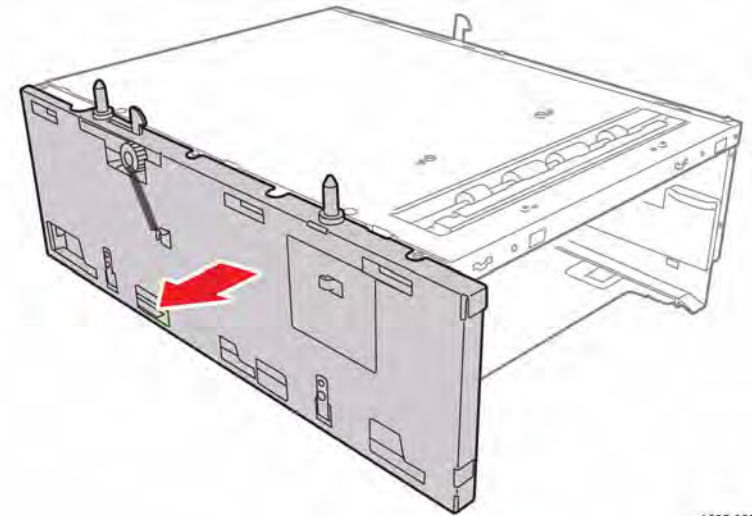

Figure 1 Remove the left side frame
7. Remove 7 screws (metal) that secure the left side frame to the chassis, Figure 1.